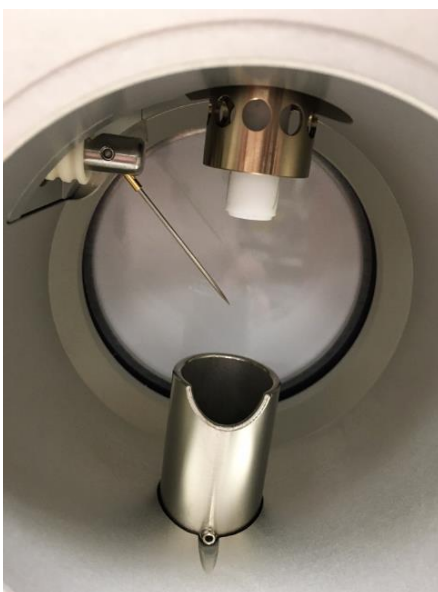

Figure 105: Locating the APCI Needle
- 2) Ensure the APCI needle is down so that it can be accessed. See Figure 105.